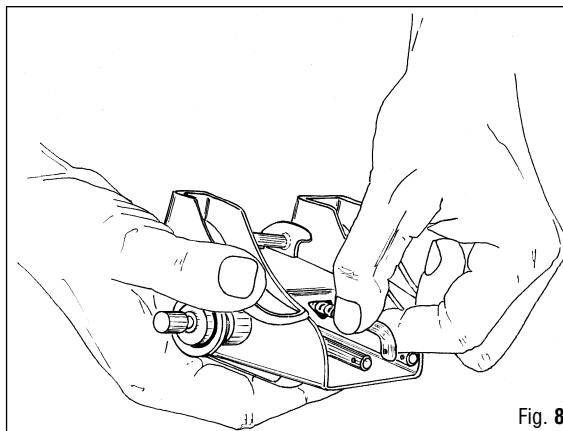

Fig. 8
17. Correctly insert the stainless steel rack (29) in its seat in the piston body (23) (see Fig. 8).